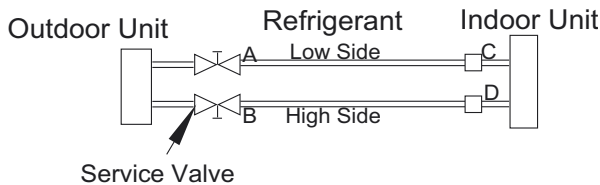

Fig. 13 — Service Valve
1. Completely tighten the flare nuts (A, B, C, D, E). Fully open all circuits service valves. Connect the manifold gage charge hose to the charge port of the low side Master service valve to evacuate all circuits at the same time (see Fig. 13).